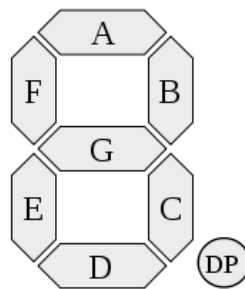
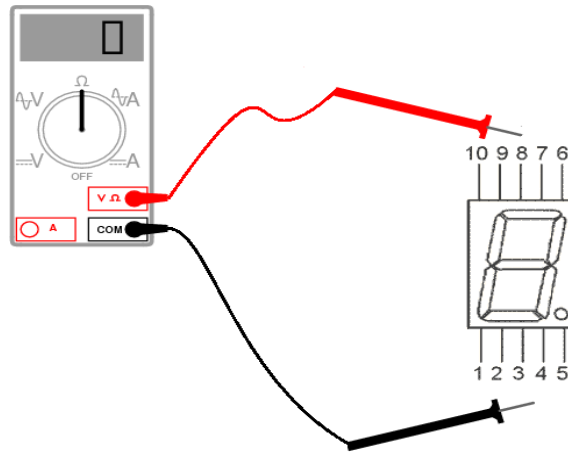

Figure 12
Figure 14
Figure 12 shows a typical seven segment display, as its name indicates, is composed of seven elements. Individually on or off, they can be combined to produce simplified representations of the Arabic numerals.
- 1- To test the 7-segment use your Digital multi-meter and set it in the ohmmeter, connect the red probe to pin 3 or 8 of the 7-segment and run the black probe on pins 1,2,4,5,6,7,9,10, as shown in Figure 14.
3- Use the above method to Fill in the following table which describe the pins of each segment refer to Figure 12 and Figure 14.